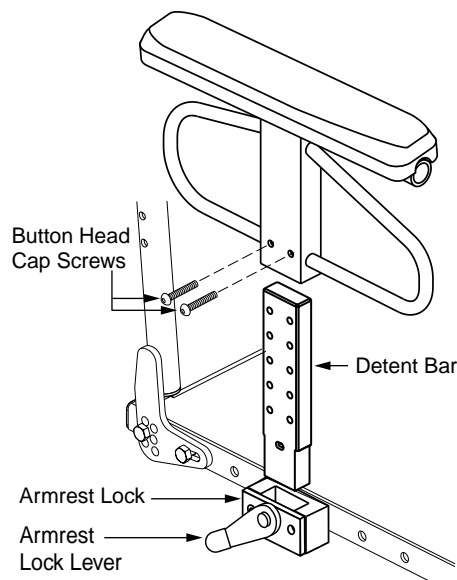

Figure 3. Heavy Duty Removable Armrest Height Adjustment
1. Rotate the armrest lock lever rearward and remove the armrest from the armrest lock. See figure 3.
2. Use a 5/32-in. hex key to remove the two (2) button head cap screws from the side of the armrest. See figure 3.
4. Reinstall the button head cap screws to the side of the armrest. See figure 3.